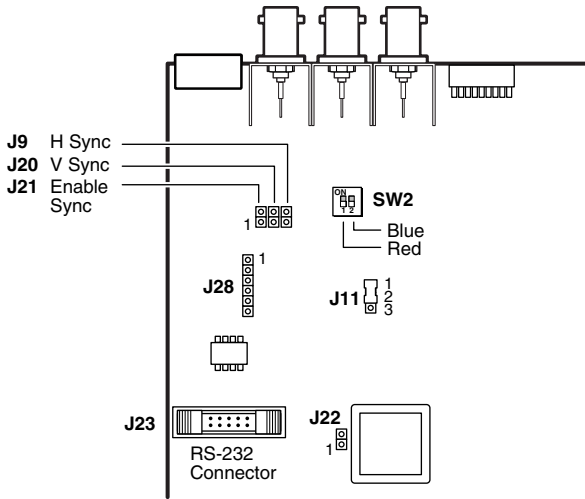

Figure 2-2 — Location of jumpers and DIP switches
3. Configure the interface as desired. See *Sync polarity jumpers*, *Internal sync DIP switches (RsGsBs)*, and *Video clamping jumper* in this chapter. Figure 2-2 shows the location of all of the user-serviceable components.